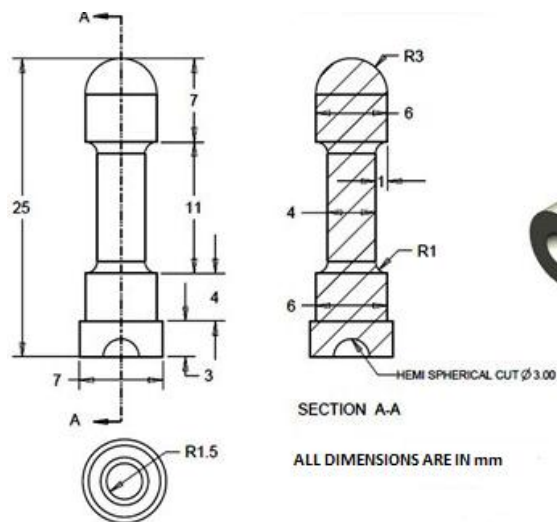

Fig. 9.5
2. 3D model the engine valve lifter shown in Figure 9.5